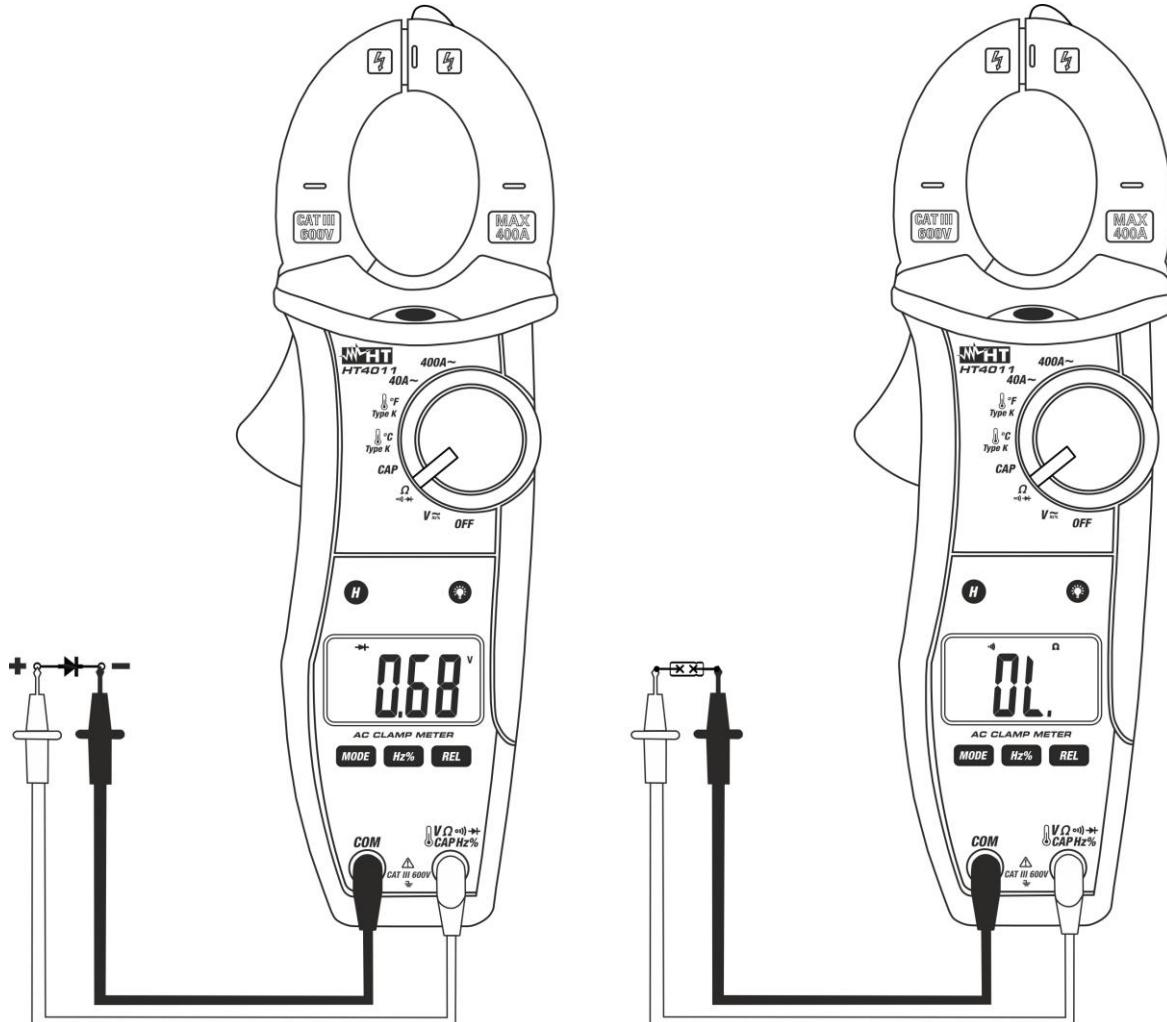

Fig. 7: Use of the clamp for continuity test and diode test
3. Insert the red cable into input terminal Ω and the black cable into input terminal **COM** and carry out the continuity test of the object to be measured (see Fig. 7 – right side). A buzzer sounds when the measured value of resistance is lower than 150Ω
5. Connect the red lead to the anode of the diode and the black lead to the cathode in case direct polarization measurement is carried out (see Fig. 7 – left side). Invert the position of the leads in case reverse polarization measurement is carried out.